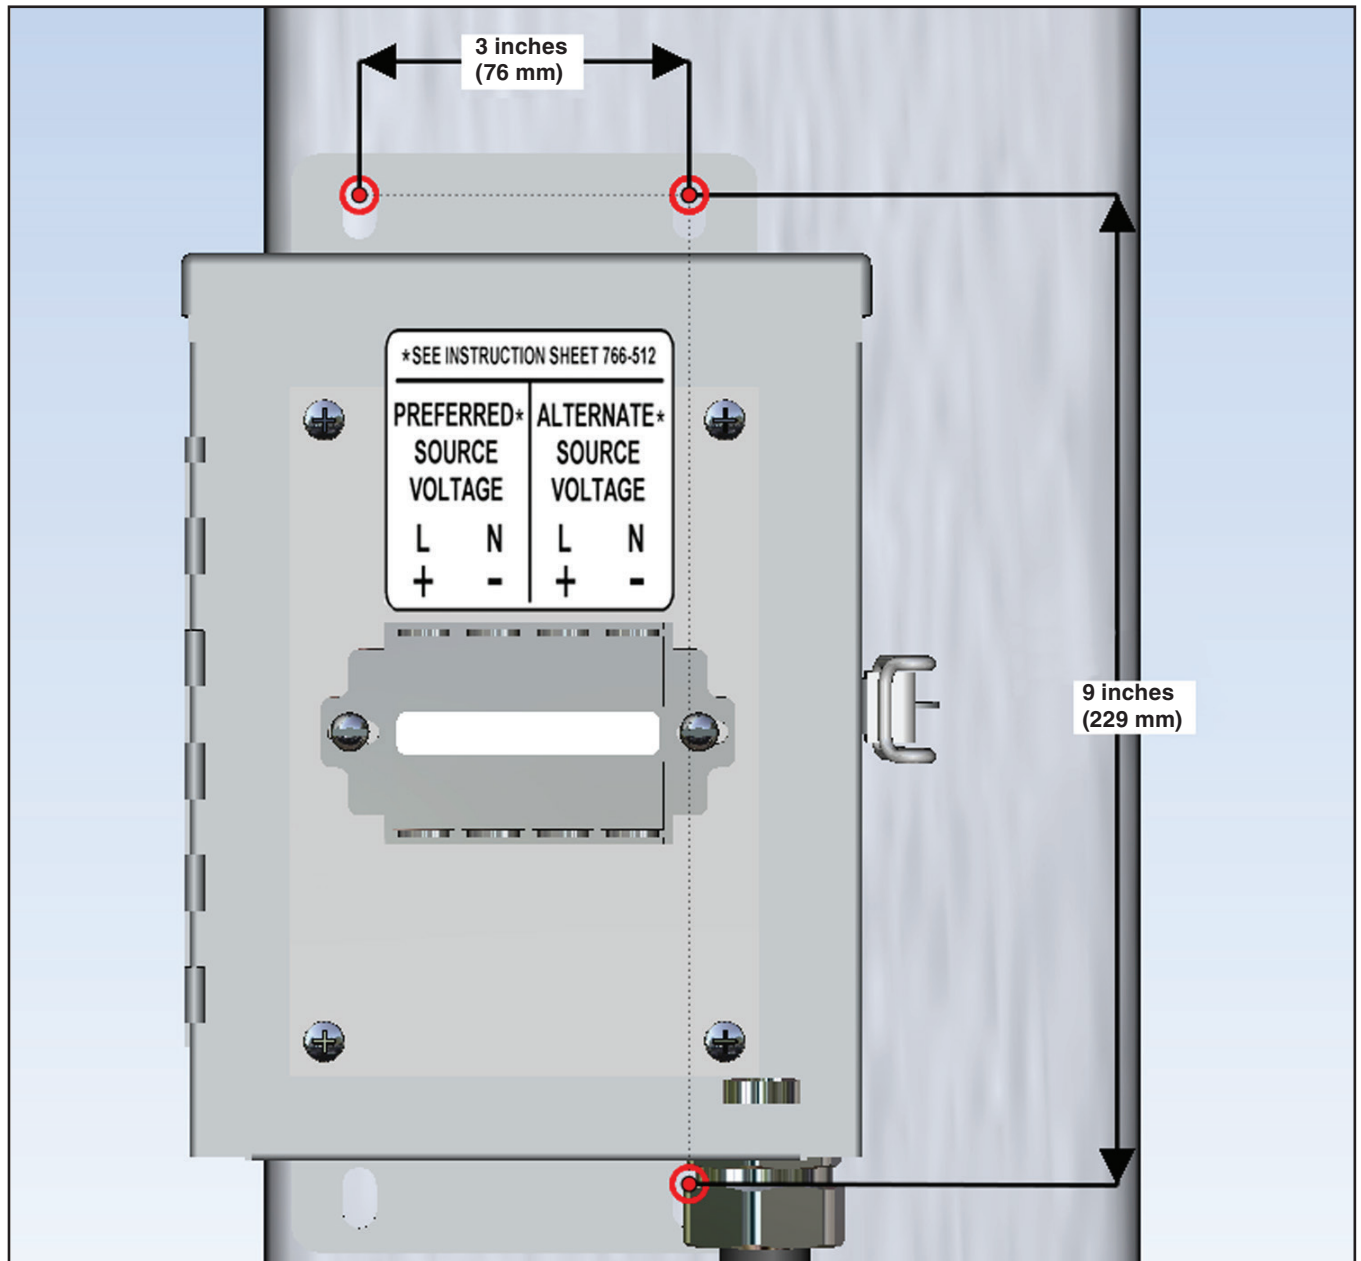

Figure 6. Junction box mounting hole spacing.
- STEP 1.** Install the junction box on the pedestal following standard utility practices. Hole spacing is shown in Figure 6.